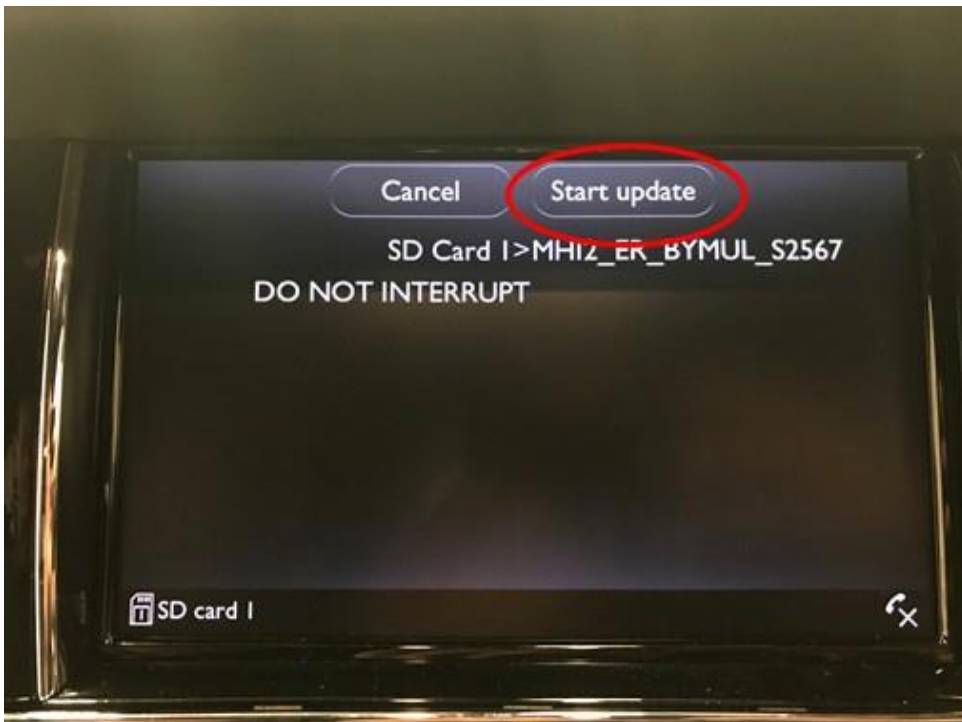

Figure 9
8. Select Start update again on the following screen (Figure 9).